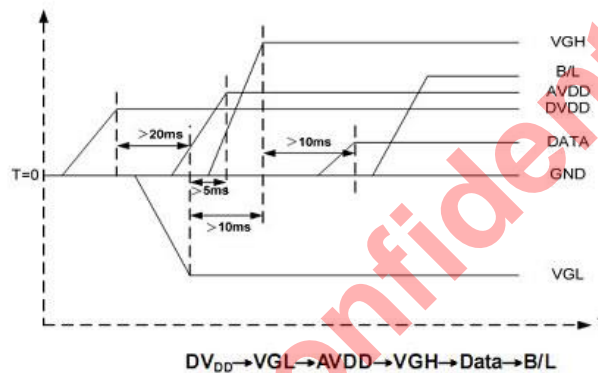

Figure 8.1 - LCD power on sequence
- LCD power on/off sequence are determined by panel specification. An example is shown in Figure 8.1 and 8.2.